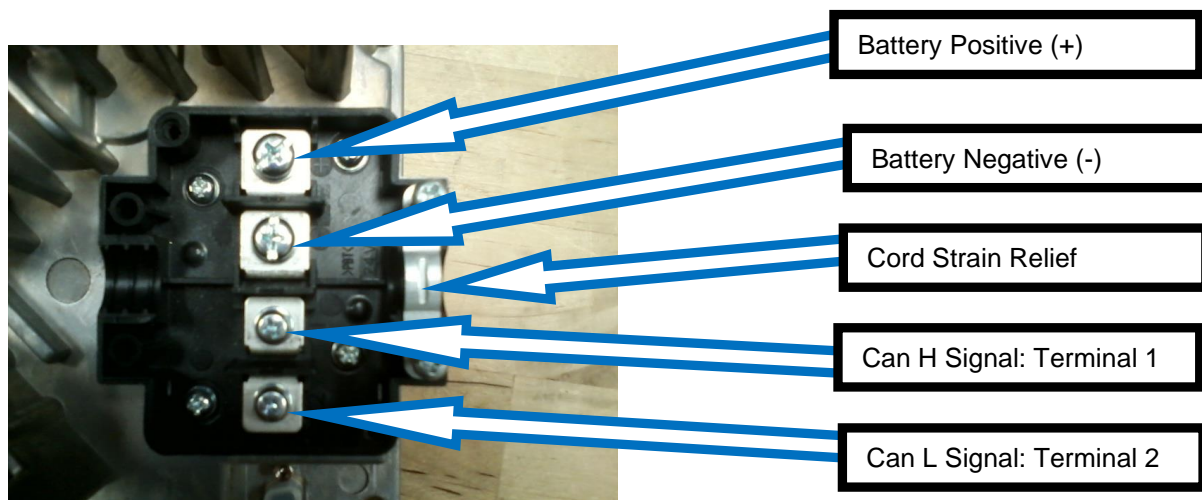

Figure 6.2-2: DC Terminal Block - Models 29310, 29710, 29910, & 30610
**WARNING: DO NOT CONNECT EXTERNAL TEMPERATURE SENSOR OR LOCKOUT WIRES TO THE CHARGERS LISTED IN FIGURE 6.2-2 OR DAMAGE TO THE CHARGER WILL OCCUR.**
⚠ WARNING: DO NOT CONNECT LOCKOUT WIRES TO THE CHARGERS LISTED IN FIGURE 6.2-2 OR DAMAGE TO THE CHARGER WILL OCCUR.